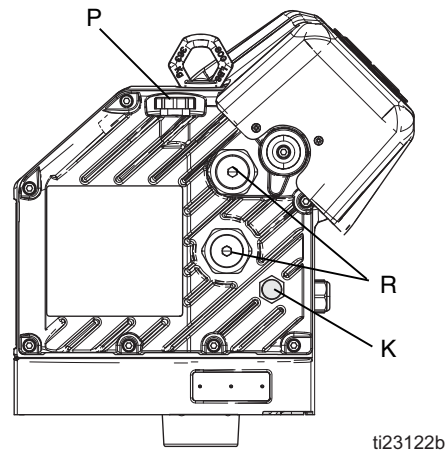

FIG. 9: Sight Glass and Oil Fill Cap
3. Open the fill cap (P) and add Graco Part 16W645 ISO 220 silicone-free synthetic EP gear oil. Check the oil level in the sight glass (K). (See FIG. 9.) Fill until the oil level is near the halfway point of the sight glass. The oil capacity is approximately 1.0 - 1.2 quarts (0.9 - 1.1 liters). **Do not overfill.**
4. Reinstall the oil fill cap (P).
Check the oil level in sight glass (K). (See FIG. 9.) The oil level should be near the halfway point of the sight glass when the sprayer is not running. If oil is low, open oil fill cap (P) and add Graco Part No. 16W645 ISO 220 silicone-free synthetic EP gear oil. See FIG. 9.
See FIG. 9. The bearing pre-loads (R) are factory set and are not user adjustable. Do not adjust the bearing pre-loads.